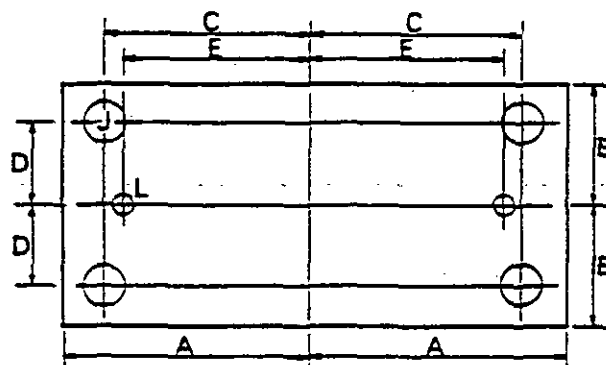
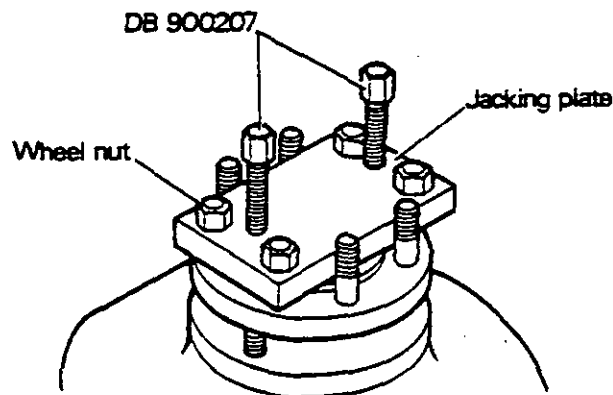

FIGURE D6. JACKING PLATE—FINAL DRIVES
FIGURE D7—EXTRACTING FINAL DRIVES
* Later tractors do not have these holes. For these tractors it is necessary to fabricate a jacking plate, Fig. D6. This should be used in conjunction with extraction bolts (K900207) as shown, Fig. D7.
To remove hub make plate to dimensions shown in figure D6 then attach plate to end of brake drum extractor (Service Tool K960618).